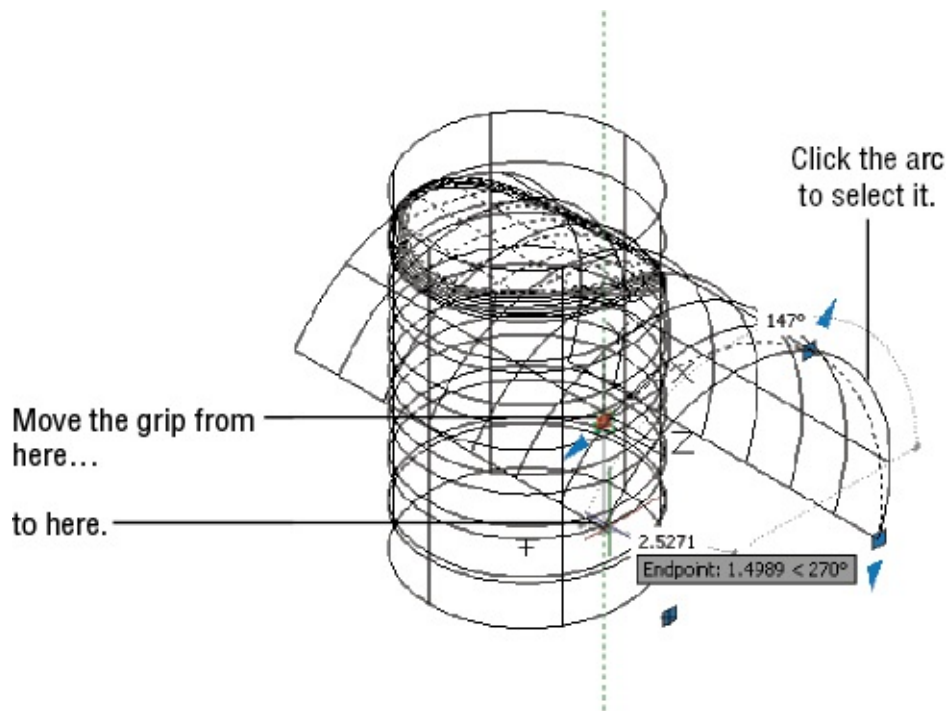

FIGURE 23.50 Adjusting the shape of the arc
2. Click the square grip at the arc’s left endpoint and drag it downward along the z-axis. When it is roughly in the position shown in Figure 23.50, click again to fix the grip’s location. The shape of the surface model changes to conform to the new shape of the arc.